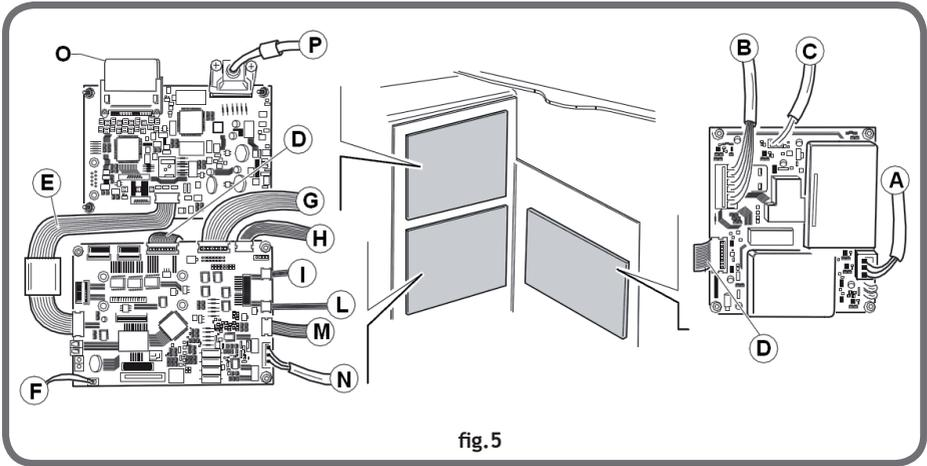

fig.5
This power supply card allows the wheel balancer to be powered with a single-phase AC mains voltage varying from 100 - 240 Volts +/- 10% (A, fig.5).
- the cable connection (D, fig.5) on the MBU card and on the PEAL 32F card;
- replace the power supply cable (D, fig.5);
This card manages the graphics on the machine and is directly connected to the CPU card via a flat cable (E, fig.5). It is equipped with a compact flash (O, fig.5) that contains all the files inherent to the graphics. This CF can be directly updated by using a PC and a compact reader.
When the card is working correctly, the LEDs LDG1, LDG2 and LDG3 are lit up with a fixed green light. If LED LDG4 lights up with a flashing red light, check the compact flash is correctly inserted. If the red light is fixed, check the connection of the flat cable on the GRFNEA and MBU32F cards (E, fig.5).
- the connection of the monitor signal cable on the connector (P, fig.5);